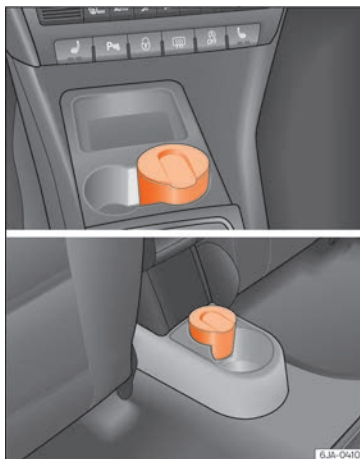

Fig. 153 Centre console: front ashtray/rear ashtray.
- Pull the ashtray »» **Fig. 153** upwards to remove.